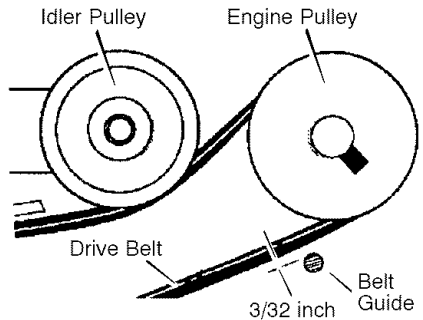

Figure 22
8. Set the belt guide to $3/32$ " clearance as shown in Figure 22.